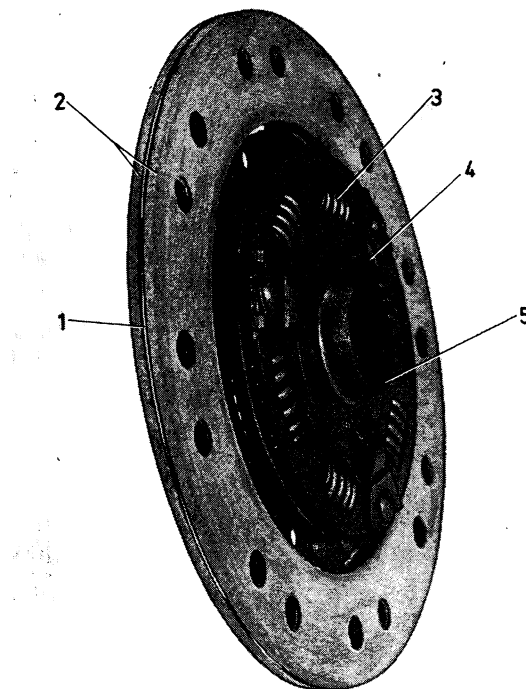

Fig. 4-5. Clutch disc
3. Rivet on the new facings (preferably in a rivet press). N.B. The rivets should be inserted from the side on which the facing lies and riveted up from the opposite direction against the disc. Use every other hole in the facing. After riveting, the facings should be spaced from each other as determined by the indentations on the clutch disc. See Fig. 4-5. This is most important in order to achieve a smooth engagement when starting and driving.